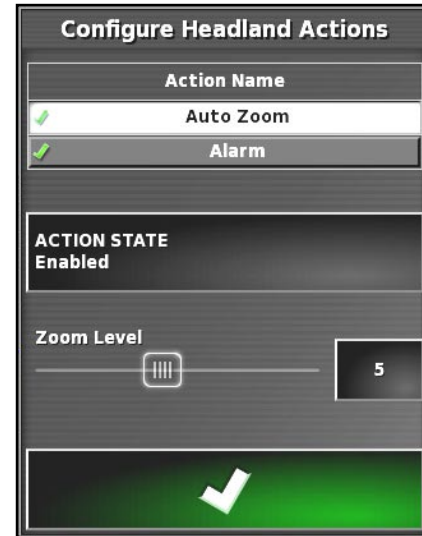

Figure 9.22 - Setting Headland Actions - Zoom
- B. Select Auto Zoom, refer to *Figure 9.22*.